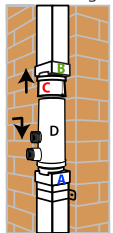

fig 5
2. Place one adapter (A) on to the bottom section of the downpipe. Make sure the adapter is as far down on the cut pipe as possible. Fit the second adapter (B) to the top pipe and then slide the Slide Joint (C) up as far as it will go onto the adapter, then with the other hand place the Diverter body (D) into the gap and locate it onto the bottom adapter (A). [see: fig 5]